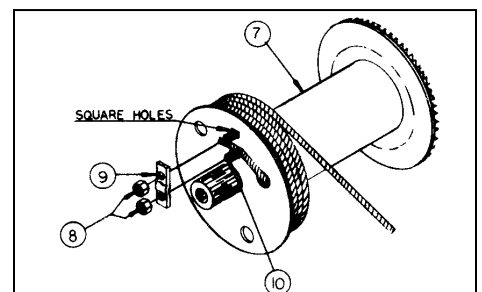

Fig. 3: Cable installation
1. Feed cable into bottom of drum (item 7, Fig.3). From inside drum, thread the cable through one round hole in the drum side, until it extends 1-1/2" past the two square holes.
2. Clamp the cable to the outside of the drum with keeper parts (items 8, 9, 10, Fig. 3). Be sure that carriage bolt heads are on the inside of winch drum.